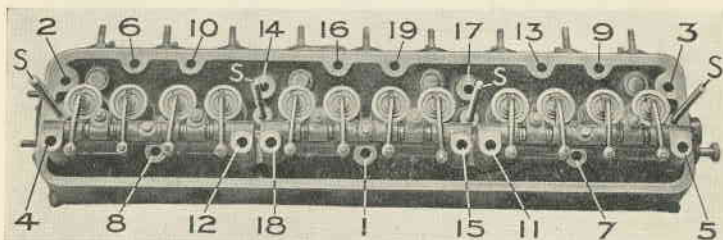

Fig. 8.
"Grinding in" valves is not a difficult matter with a Sunbeam engine if the following procedure is adopted. Strict attention to the sequence of operations laid down will ensure that the work is done correctly, and without waste of time. After draining the water from the cylinder block proceed as follows: (1) Disconnect the high tension wires; (2) Remove the sparking plugs; (3) Remove the hose clip on the water outlet connection and detach hose; (4) Disconnect carburettor controls; (5) Remove the nuts which hold down the valve cover and lift latter away; (6) Remove the inlet and exhaust manifold and the carburettor; (7) Remove the cylinder head holding down nuts (the nuts should be unscrewed in the order shown in Fig. 8); do not remove nuts directly, each nut should be unscrewed slightly in turn; (8) Carefully lift the head clear of the locating studs, taking care not to damage the threads.
The nuts should be tightened progressively ; that is, each nut should be given about one-third of a turn at a time (see Fig. 8).